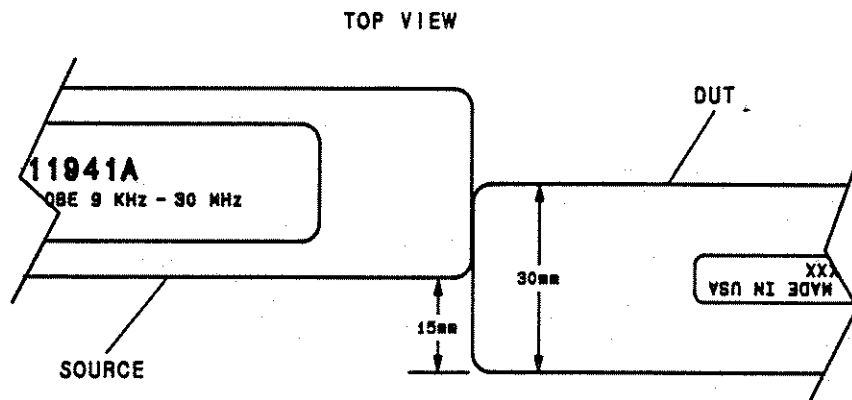

Figure 15. Detail of Probe Orientation for Insertion Loss Test (Measurement of Loop #2)
5. Realign the DUT as shown in figure 15. The calibration label of the DUT should face upward. This position illuminates the second sense loop of the DUT with the same magnetic field intensity as the first loop.